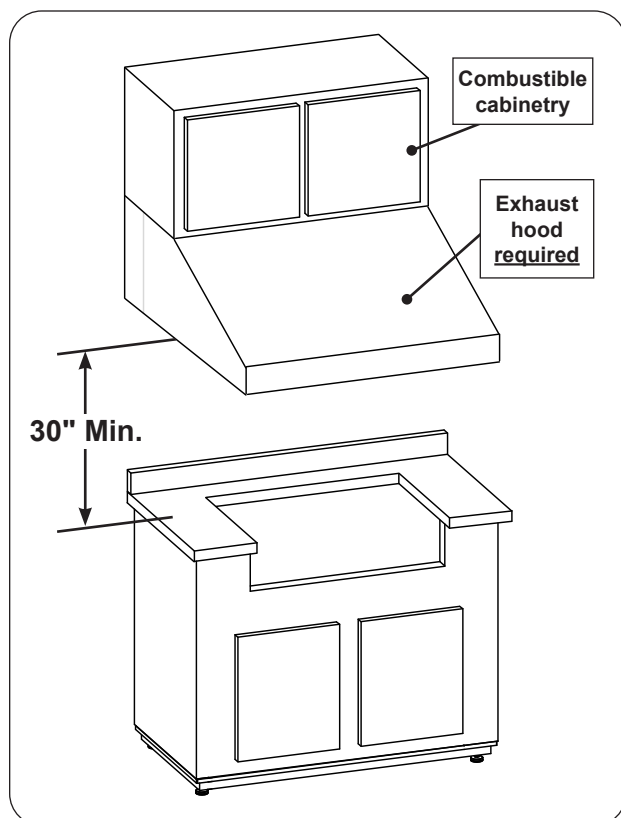

Fig. 16-2 Overhead cabinetry requirements
- **An exhaust hood is required.** A minimum clearance of 30" (Fig. 16-2) is required between the countertop and the exhaust hood. Any overhead cabinetry must be directly above the exhaust hood. Cabinetry extending to the left or right of the exhaust hood is not permitted.